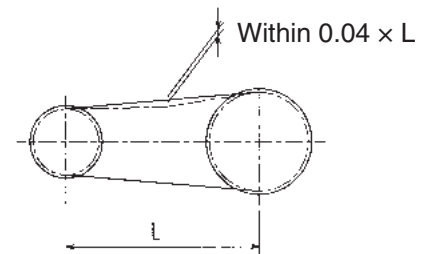

Fig. 13 Slack in chain
- (2) The slack in the chain shall be approx. 4% of the span length (see Fig. 13). If the slack is too large, an excessively high impact will occur at the start, and the geared motor may be damaged.